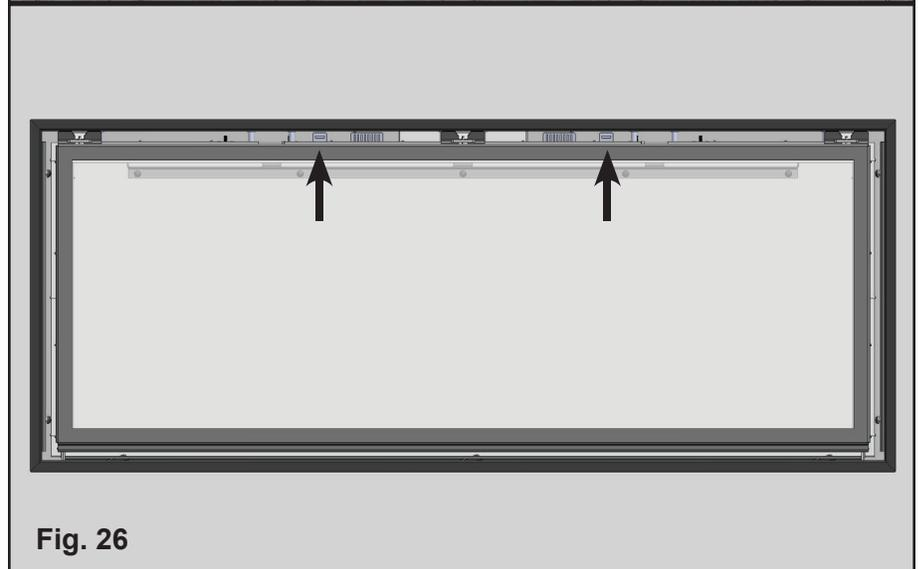

Fig. 26
3. Use a screwdriver in the slot of the restrictor plate tab to slide the restrictor plate open or closed. (**Fig. 26 & 27**)